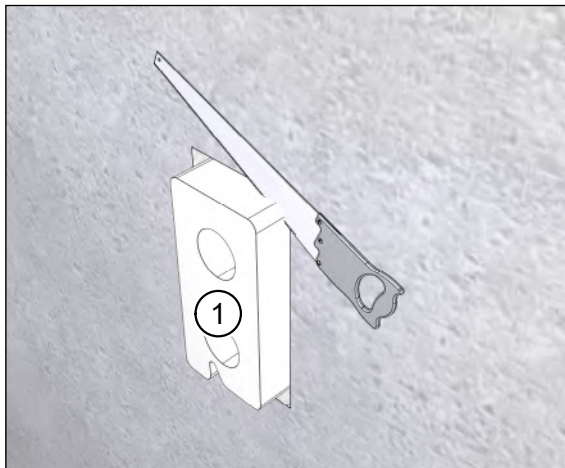
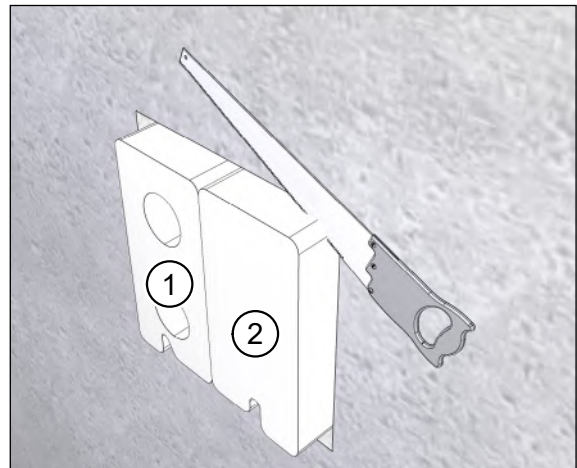

Fig. 29: Aligning the wall box **without** filler piece
Fig. 30: Aligning the wall box **with** filler piece
- ▶ Use a Styrofoam saw to cut off the excess wall box (item 1 in Fig. 29 and Fig. 30) and filler piece, if necessary (item 2 in Fig. 30), so that they are flush with the solid wall or any insulation.